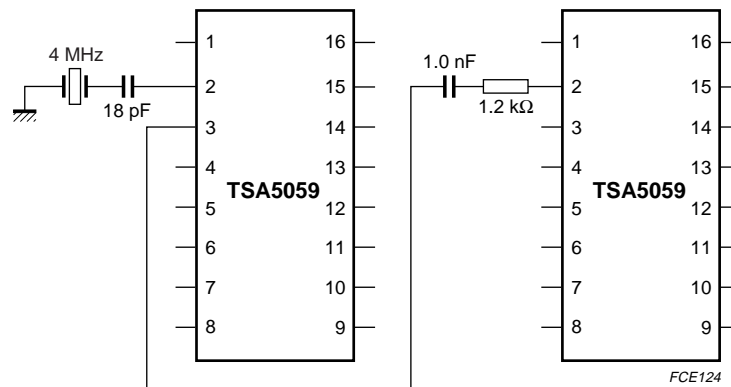

Fig.5 Application for using one crystal with two TSA5059s.
- To drive pin XTAL from the pin XT/COMP of another TSA5059, couple the signal through a capacitor of 1 nF (to remove the DC level), in series with an 1.2 kΩ resistor; see Fig.5.
It is also possible to feed pin XTAL with an external signal between 2 and 20 MHz, coming from an external oscillator or from the pin XT/COMP of another TSA5059, when more than one synthesizer is present in the same application. Then the application given in Fig.5 should be used.